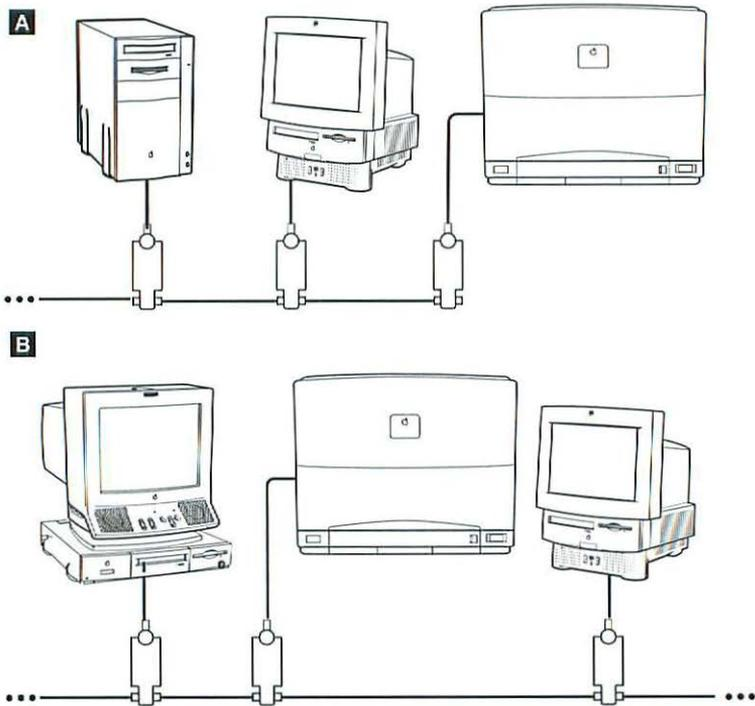

Figure 4. Ethernet Connections
3. Connect the printer to the Ethernet network in one of these ways (see Figure 4):